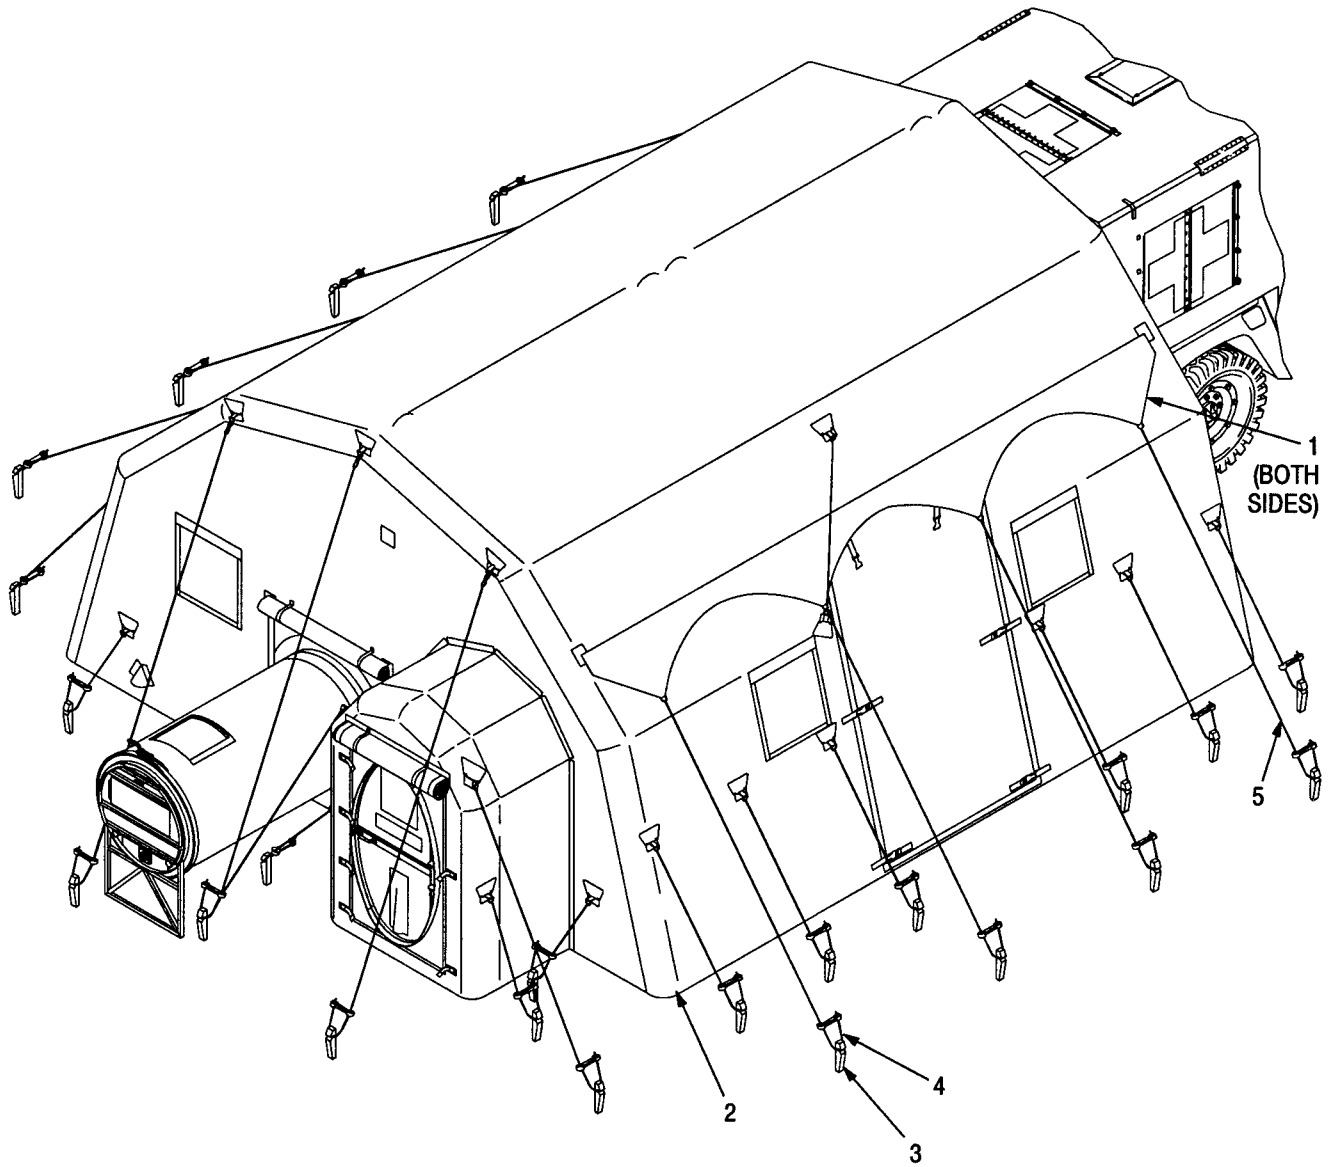

Figure 2-57. ABS in Unusual Conditions
- (1) Locate high wind catenary (1, figure 2-57) along each side of ABS (2).
- (2) Set eleven (24 inch) stakes (3) as shown.
- (3) Loop high wind lines (4) around stakes (3) and adjust with slips (5).